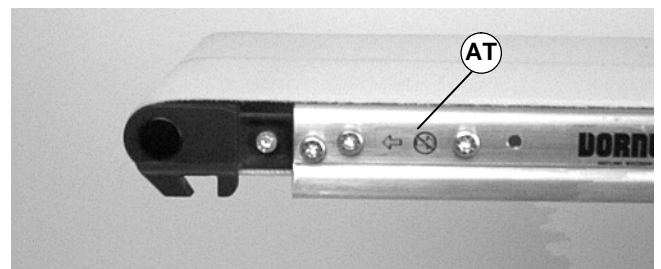
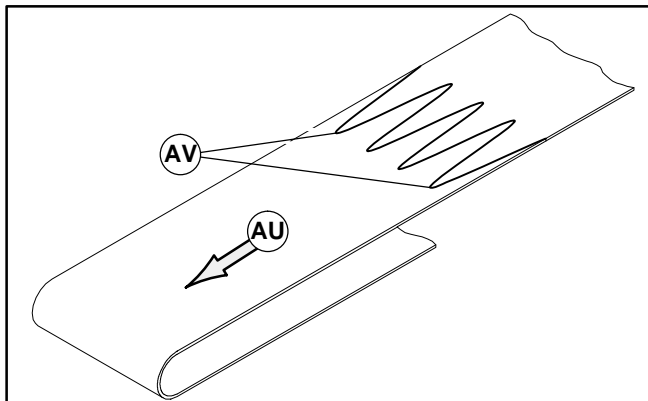

Figure 30
Figure 32
**IMPORTANT:** On a center drive conveyor, belt travel direction is identified by an arrow decal on the side of the conveyor (AT of Figures 30 & 31).
1. Orient the conveyor belt so that the splice leading fingers (AV of Figure 32) point in the direction of belt travel (AU) as identified by the label (AT of Figure 30).